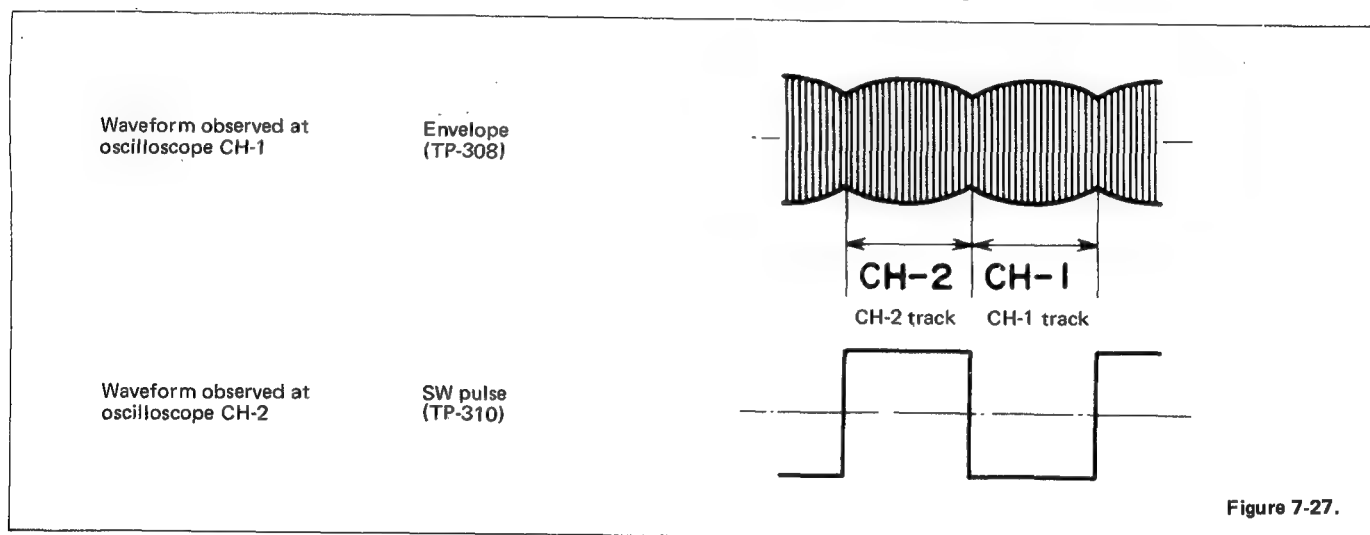

Figure 7-27.
- 2) Observe envelope by triggering with SW pulse (see Figure 7-27).